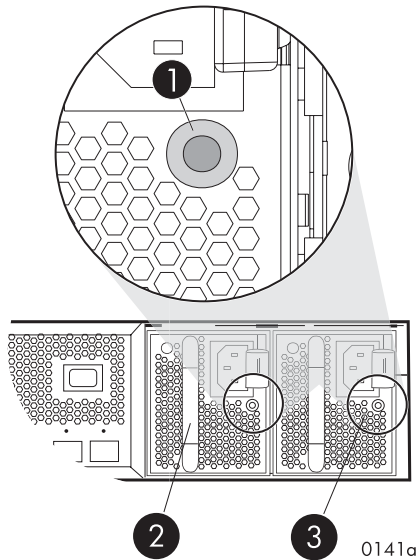

Figure 44 Power supply status indicator
- Check the power supply status indicator. See Figure 44. It should be amber or off.